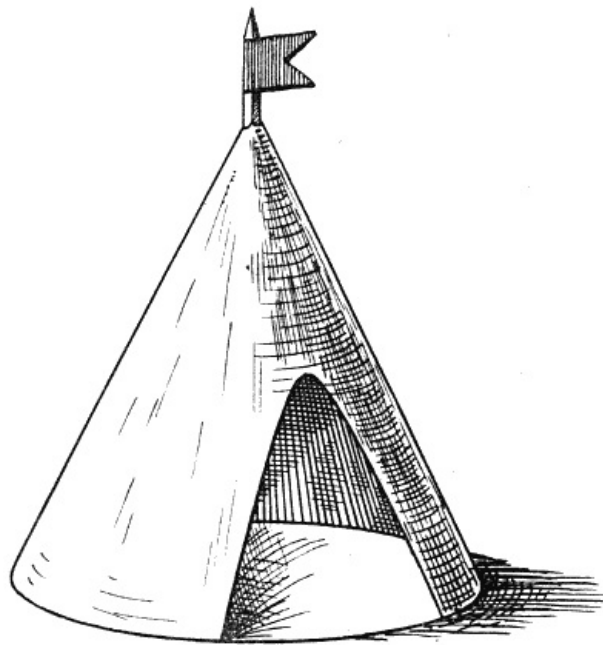

FIG. 8.
*Tents for Toy Soldiers.*—Boys who play with lead soldiers often find that, in making up a game, they require some tents for the camp. These are quite easily made either from paper or from calico. Their size will depend, of course, upon the size of the soldiers; and it will be quite easy to construct them to measure two or three times the measurements given here. Here is a picture of one (Fig. 8).